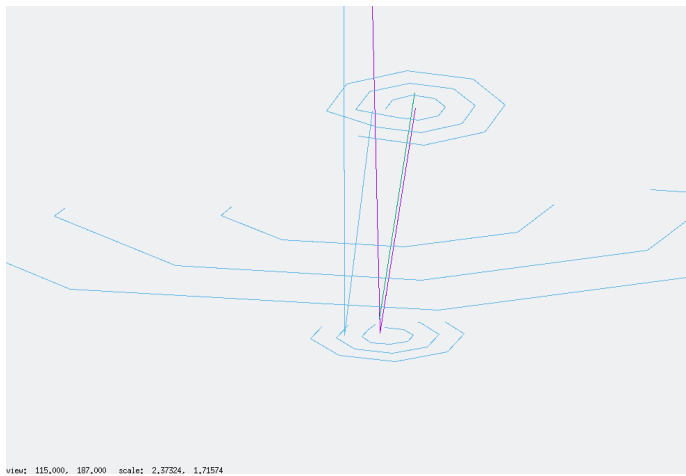

Figure 31: The final portion of the ray paths, hitting the dichroic wheel and (from below) the detector.
Eventually the green (N) ray moves towards the upper rim of the detector, and the blue (E) ray towards the rim which is geographically at the East (Figure 31). Following a standard argumentation of imaging optics, the camera acts as follows: an object on the sky that is East of the telescope (and hits M1 with an inclination to the West) is imaged on the opposite side of the detector of where the E ray approaches, and similarly an object on the sky that is North of the telescope (and hits M1 with an inclination to the South) is imaged opposite where the N ray approaches. The image on the infrared detector shows N down and E right. This is  $180^\circ$  rotated relative to the standard